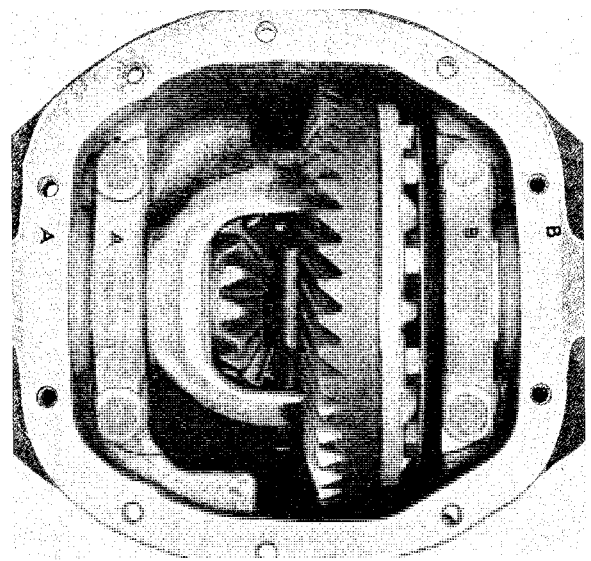

Fig. 4-141. Alignment marking on cap and carrier
5. Check the alignment markings on the cap and carrier, see Fig. 4-141. If there are no markings, or if they are difficult to see, mark one side with a punch. Remove the caps.